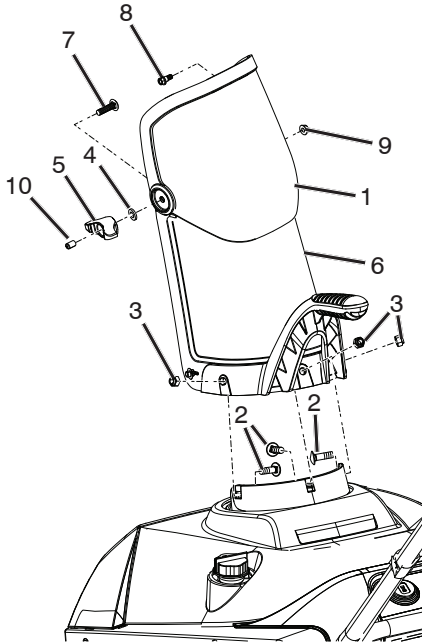

Figure 4
1. Install the chute deflector to the discharge chute using bolts and, washer, nut, deflector knob and cap plunger (Figure 4).